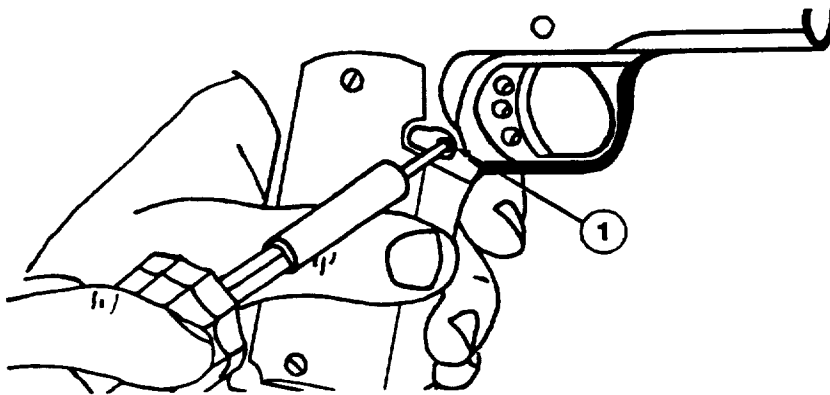

Figure 6-4. Magazine Catch Lock
(2) Using a small flat-tip screwdriver, turn the magazine catch lock (1), Figure 6-4, counter-clockwise 90 degrees to unlock *while* depressing the left side magazine catch.